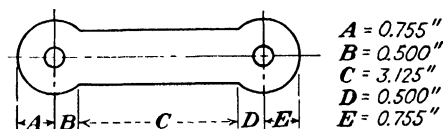

Fig. 32.
5. Find the over-all length of the fitting in Fig. 32.